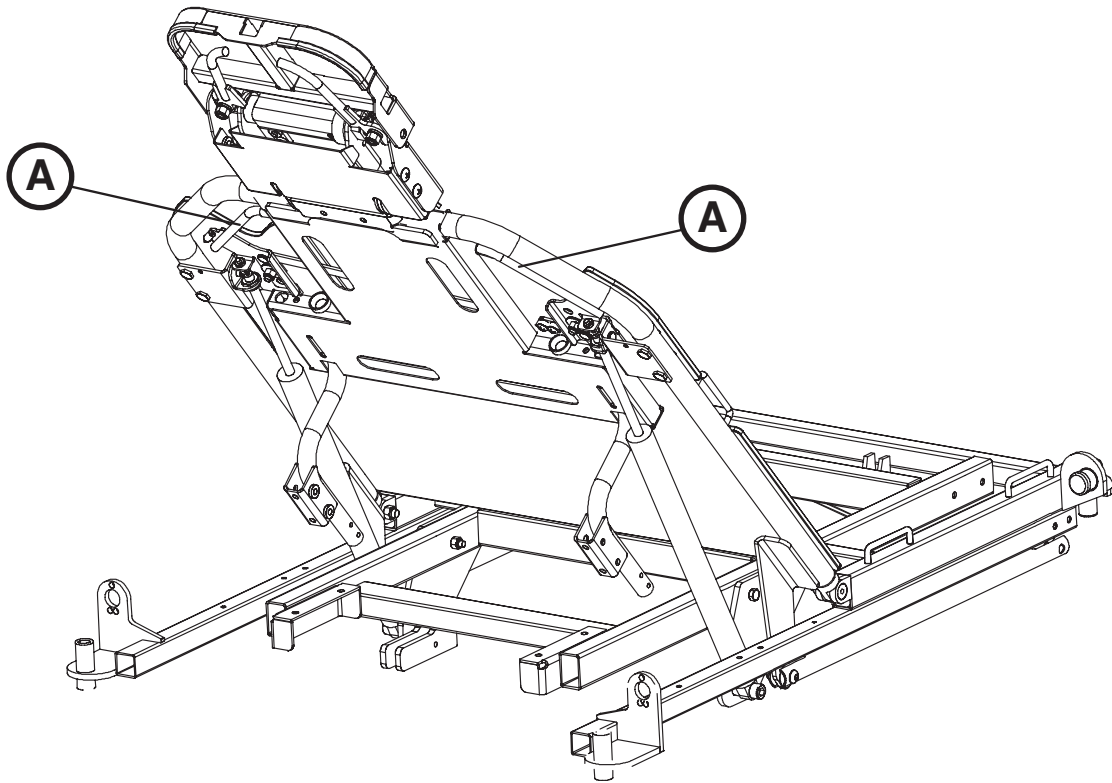

Figure 5: Fowler (Model 5051)
To raise the fowler, squeeze the red handle (A) toward the fowler frame for pneumatic assist until the fowler has reached the desired angle (between 0 and 90 degrees) as shown in Figure 5.
To lower the fowler, squeeze the red handle (A) toward the fowler frame and push down until the fowler has reached the desired angle (between 90 and 0 degrees) as shown in Figure 5.